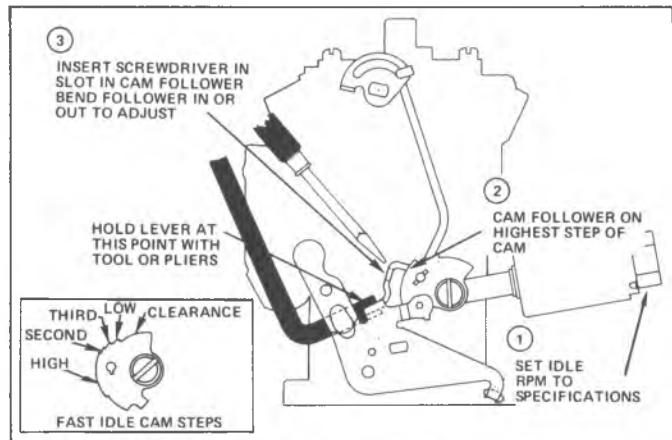

Fig. 1C--Fast Idle Adjustment (Rochester MV)
### FAST IDLE ADJUSTMENTS (Figs. 1C, 2C and 3C) ROCHESTER MV AND 4MV
- b. Bend fast idle lever as required on Rochester MV to specified speed (Fig. 1C).